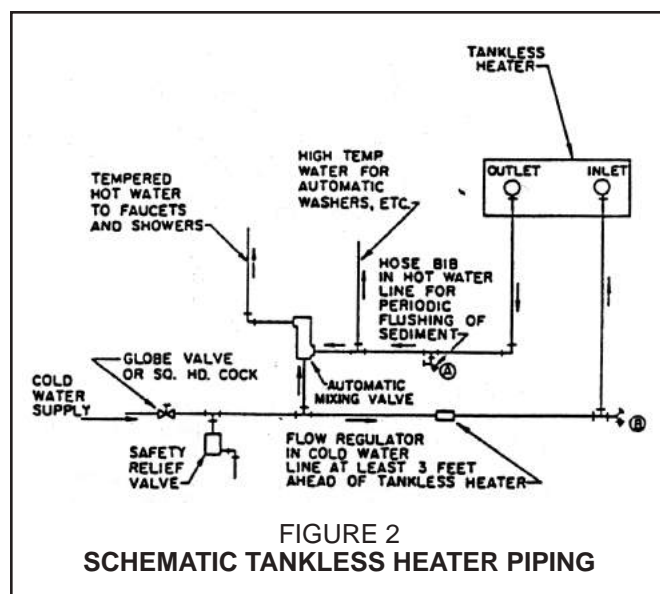

FIGURE 2
- A. If boiler is ordered with tankless heater, connect tankless heater piping as shown in Figure 2.